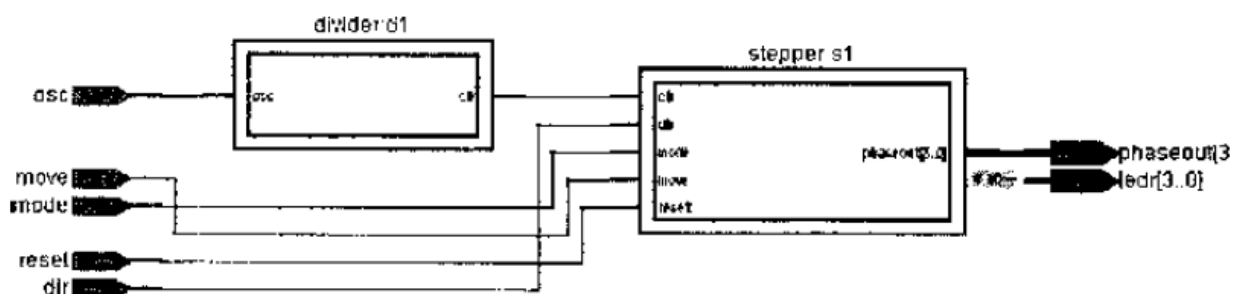

Figure 6.1: RTL Viewer overview of the step top-level module.
4. Use **Tools** → **Netlist Viewer** → **RTL Viewer** to generate the block overview shown in Figure 6.1.